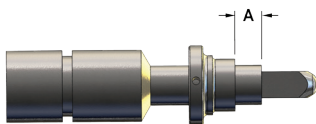

Figure No. 2
3. Slide drive collar large end first over the stub shaft. Position collar and set dimension 'A' to 0.6". (see figure no.2)